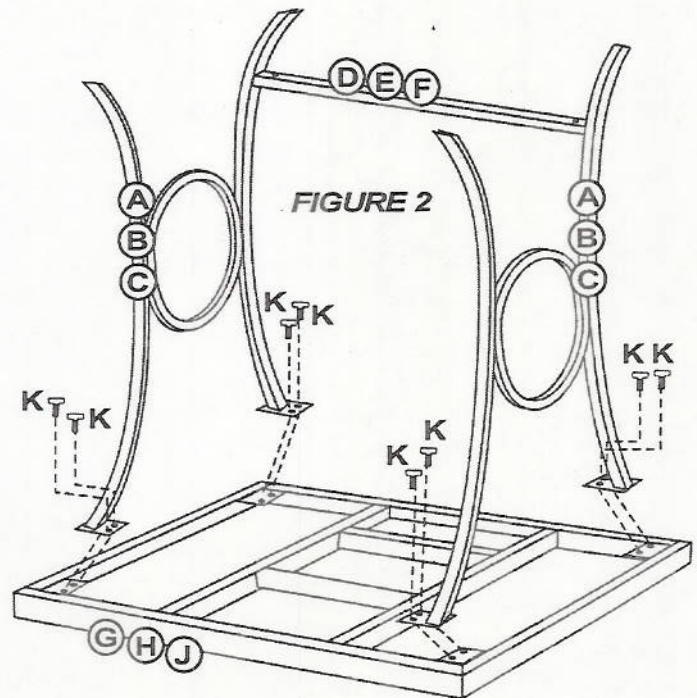

FIGURE 2
Attach each Small Leg Panel (A) to Small Table Top (G) using 2 Allen Bolts (K) per each leg. Tighten all bolts using the Allen Wrench (L) provided. See Figure 2.